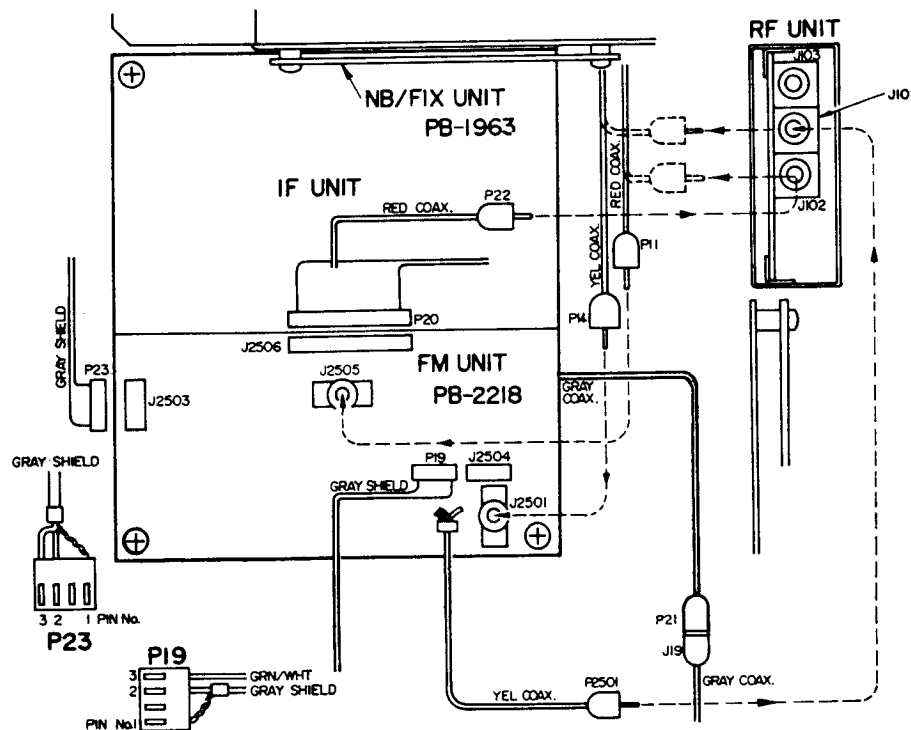

Figure 15
5. Unplug P14 (yellow shielded cable) from J101 on the RF unit, and connect it to J101 on the FM unit. Then connect P2501 (yellow shielded cable) to J101, by referring to Figure 15.
6. On the RF unit, unplug P11 (red shielded cable) from J102, and connect it to J2505 on the FM unit. Connect P22 (red shielded cable) from P20 (connected to J2506) on the FM unit, to J102 on the RF unit, as shown in Figure 15.